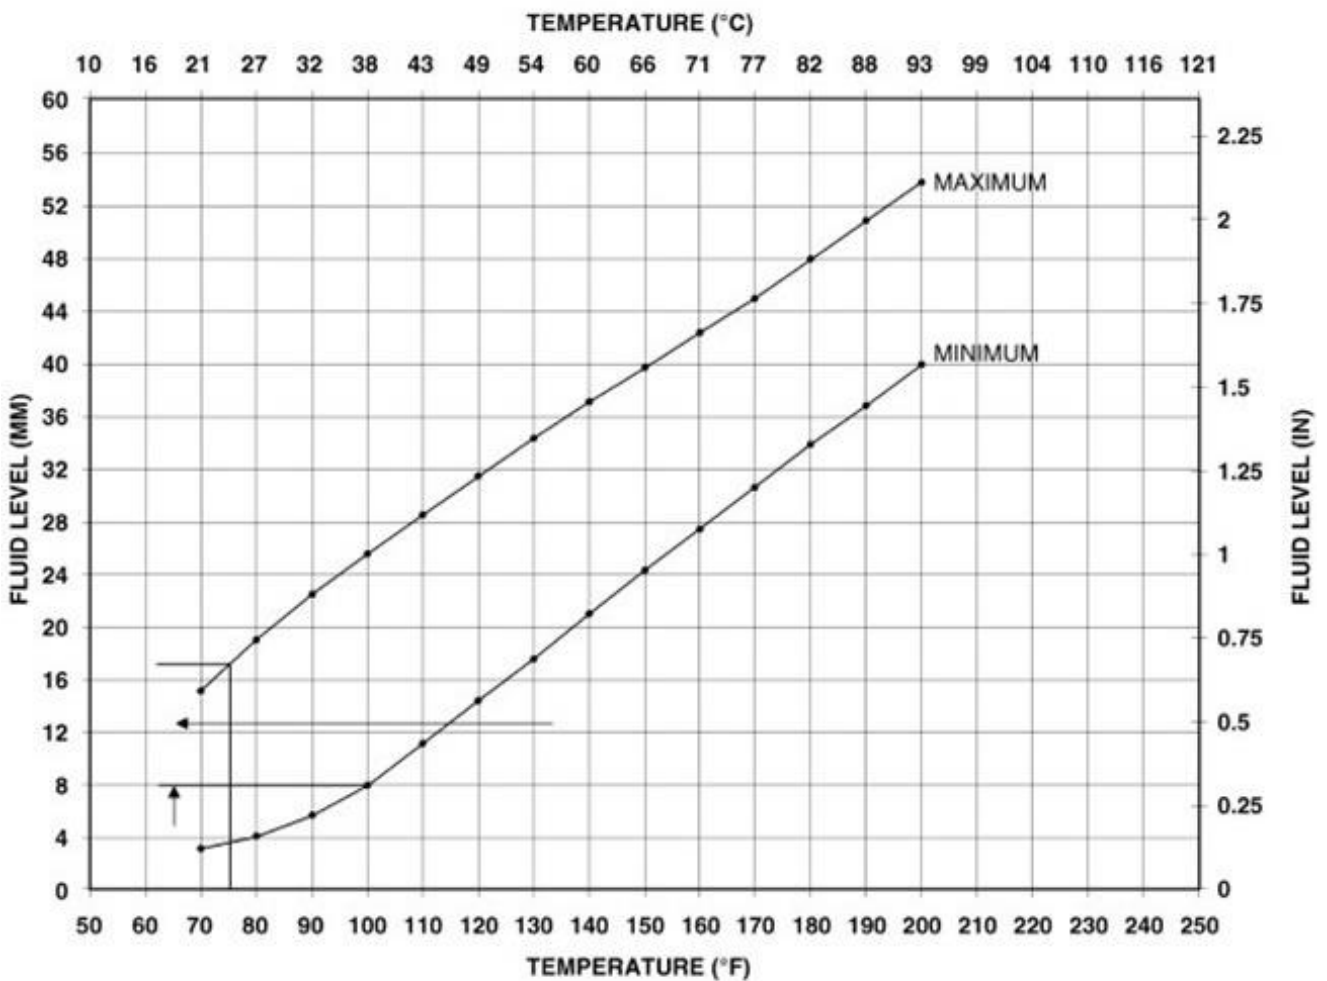

Figure 47 – Fluid Level / Temperature Chart
- 121. The transmission Oil Dipstick 9336A has indicator marks every 10 mm. Determine the height of the oil level on the dipstick and using the height, the Transmission Fluid Temperature (TFT) as viewed with the scan tool, and the Transmission Fluid Graph, determine if the transmission oil level is correct (Figure 47).